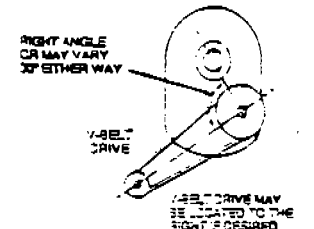

Fig. 3
3. Install motor and V-belt drive so belt will approximately be at right angles to the center line between driven and input shaft. (See Fig. 3) This will permit tightening the V-belt with the torque arm.